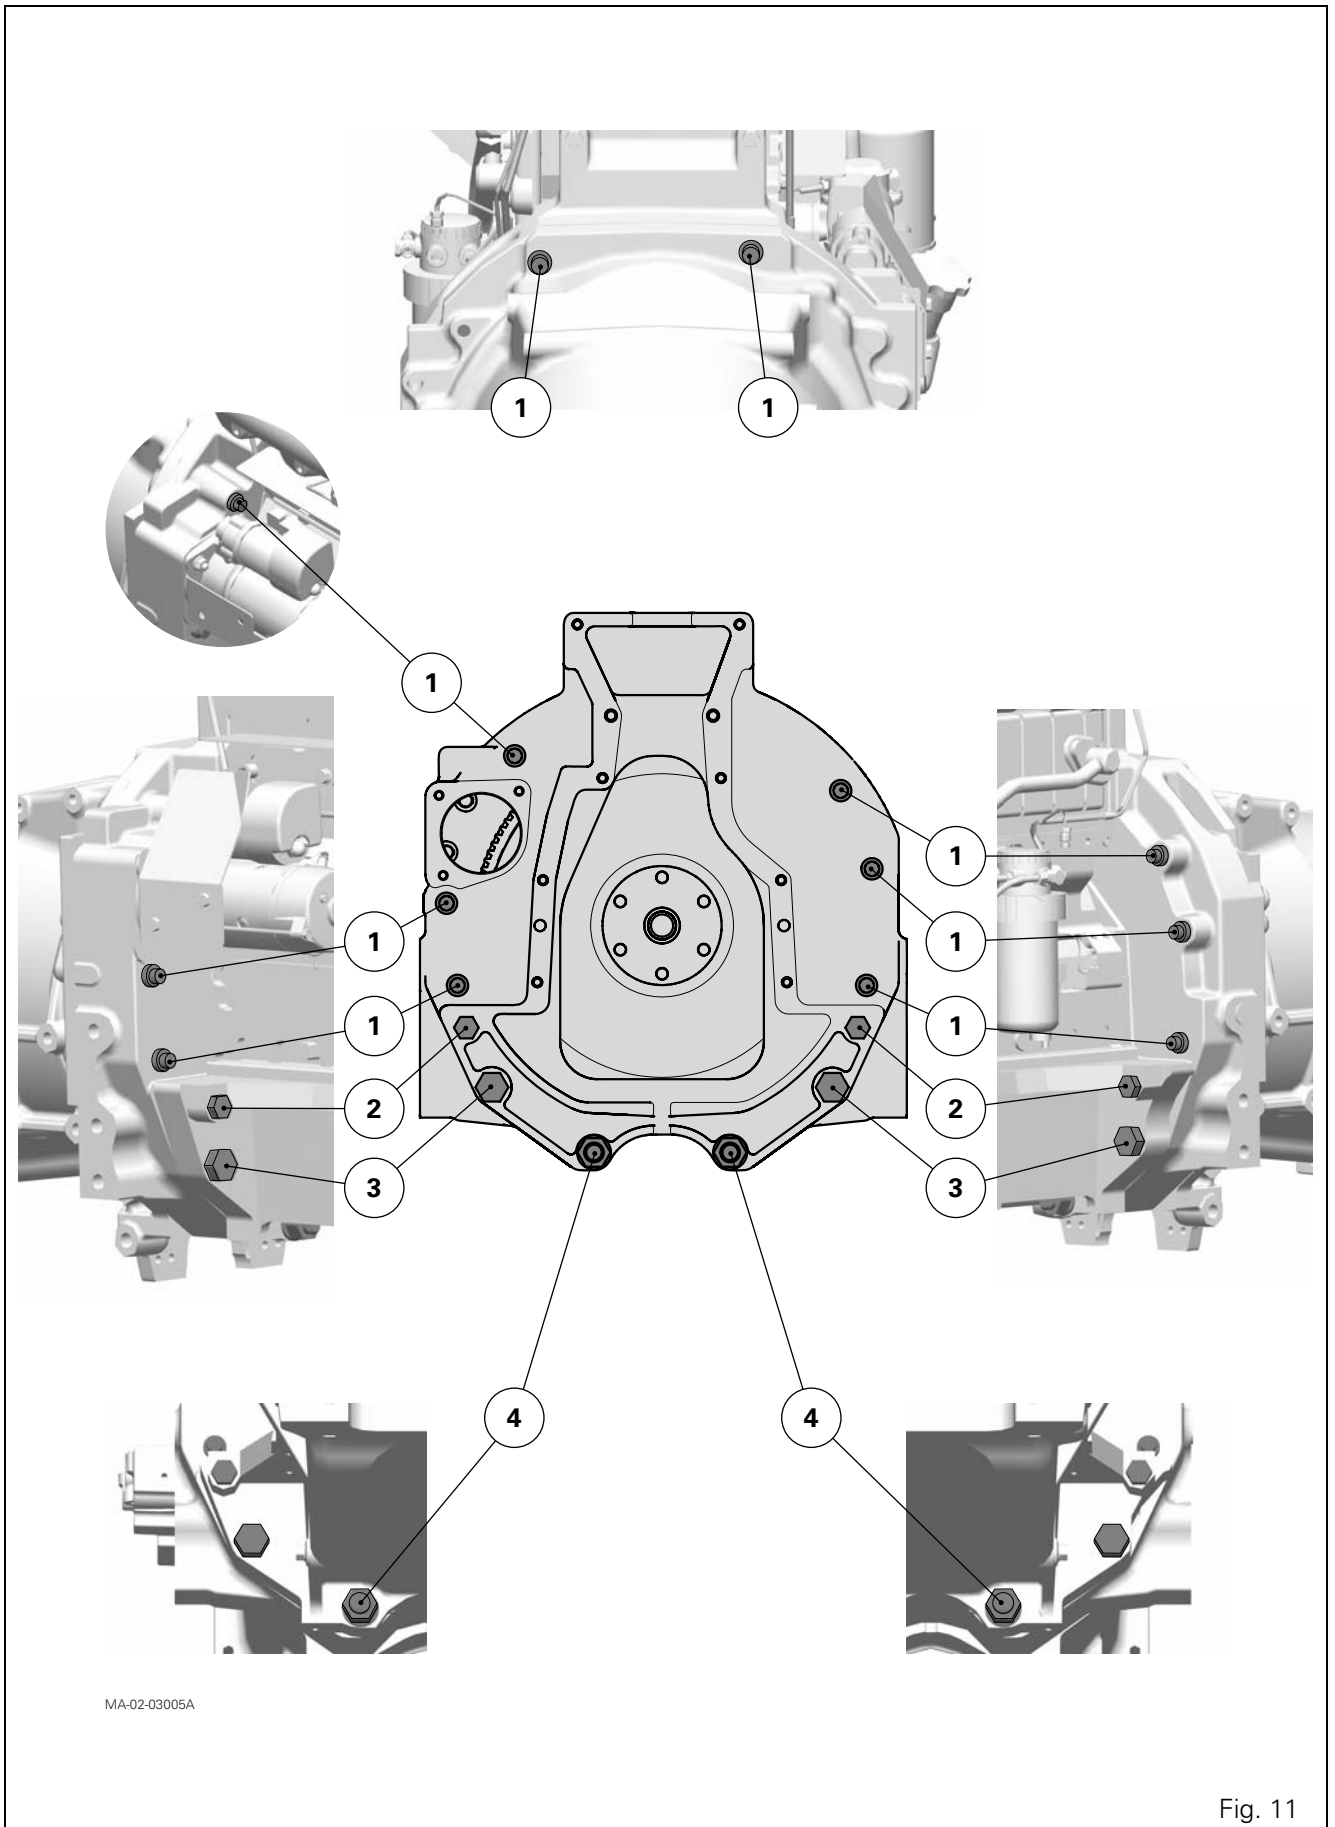

Fig. 11
29. When the elements are joined, remove the guide studs (if fitted). Lightly smear the thread of the screws and nuts with Loctite 270 or equivalent and refit according to the marks made during disassembly. Tighten to the required torques (Fig. 11)
- Screws (1): 115 Nm
- Screws (2): 280 Nm
- Screws (3): 735 Nm
- Nuts (4): 735 Nm